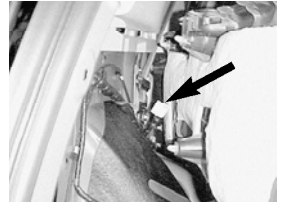

Fig. 2
6. Locate the vehicle's trailer wiring connector behind the trim panel. This will be a white connector similar to that found on the hitch wiring harness (Fig. 2).